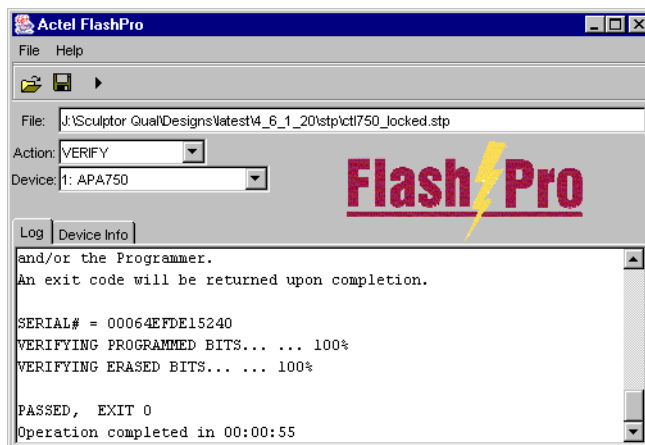

Figure 2-13. Successful Verification
4. Click *Execute* to start the verification process. A successful verification will result in Exit 0, as shown in Figure 2-13. If the STPL file is different from the file used for programming, Exit 11 appears in the Log window (see “Error Messages & Troubleshooting Tips” on page 89, “Exit 11” on page 92 for more details).